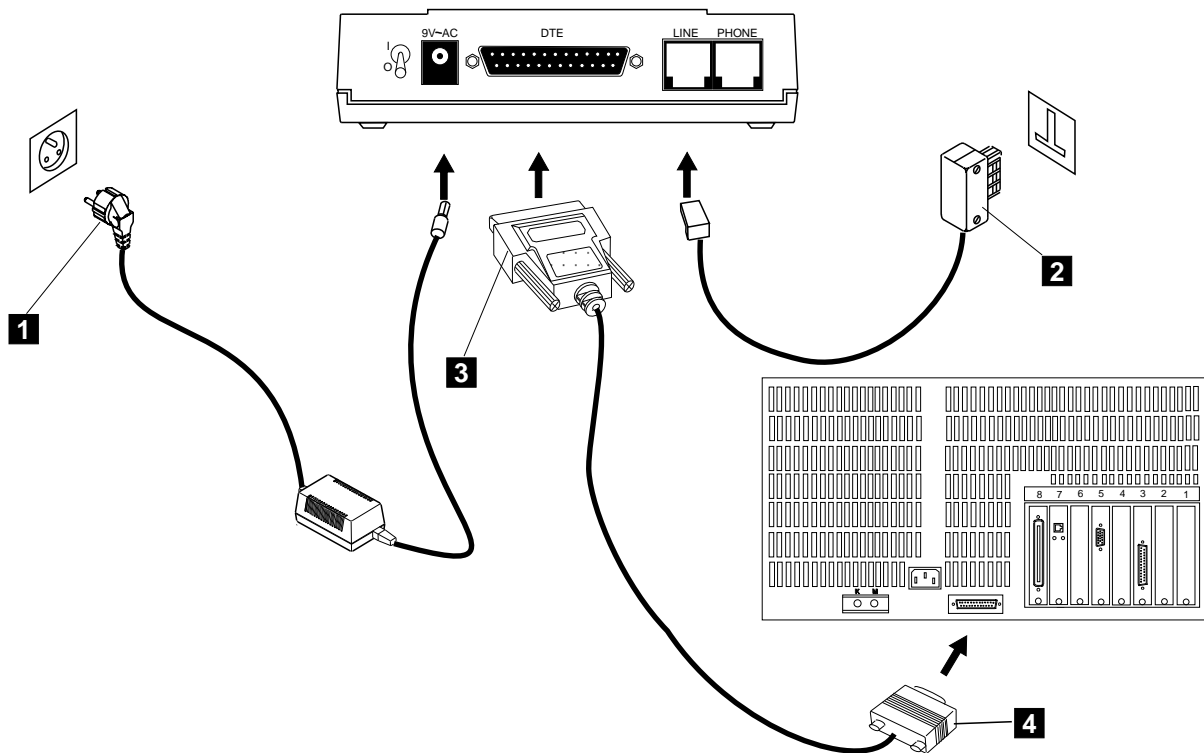

Figure 1-77. Connecting the 3172 (Port COM1) to the Hayes
- **3172**, Figure 1-77 on page 1-68.